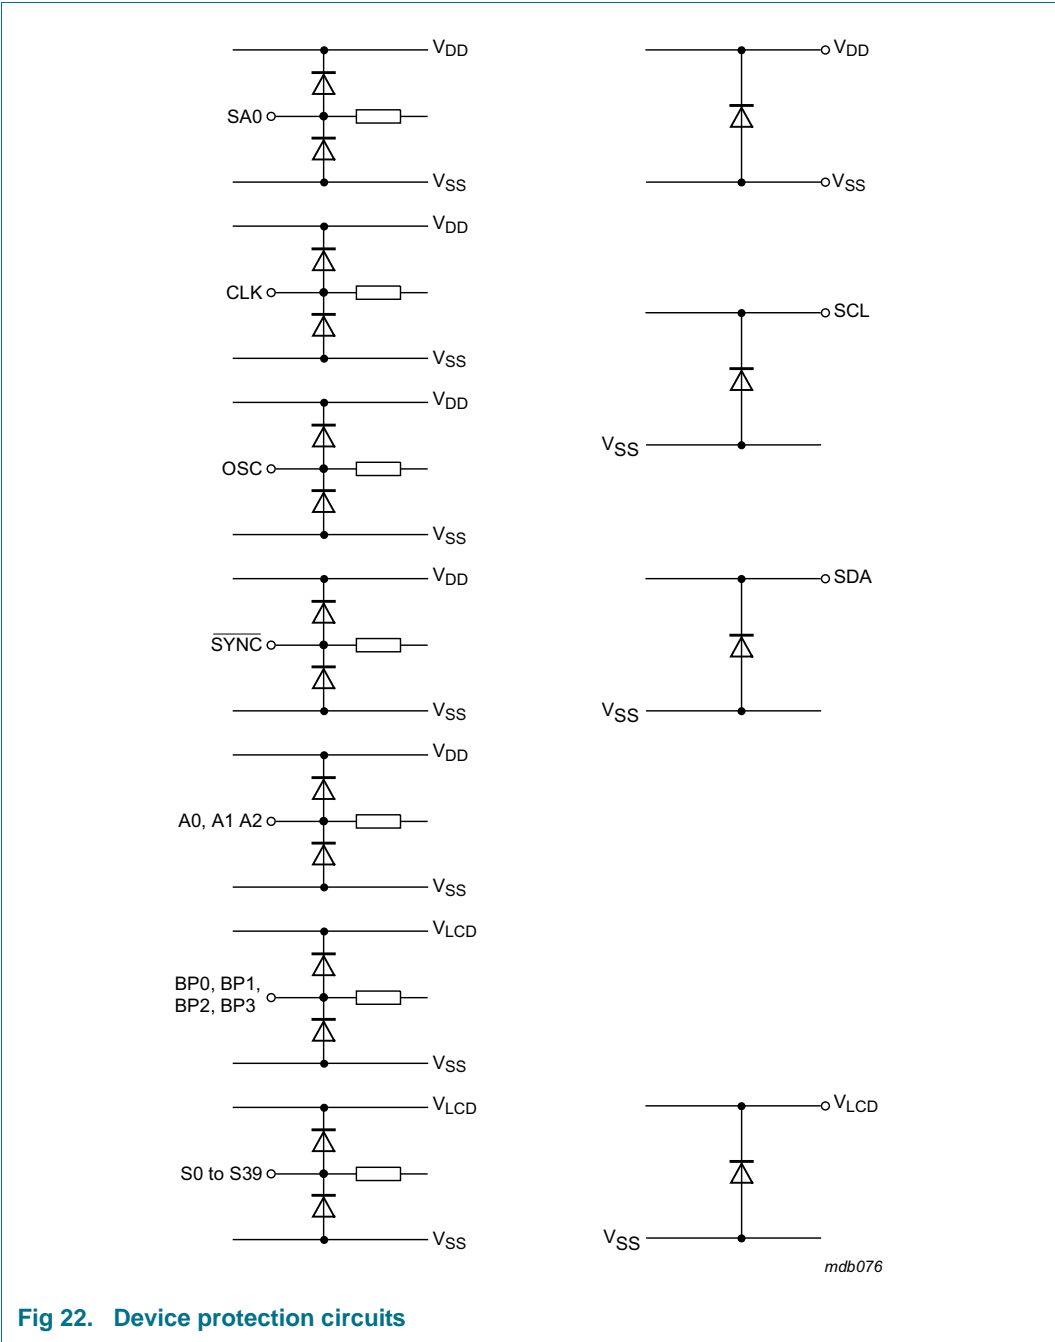

Fig 22. Device protection circuits
- [4] When tested, I²C pins SCL and SDA have no diode to V_{DD} and may be driven to the V_I limiting values given in Table 18 (see Figure 22 as well).